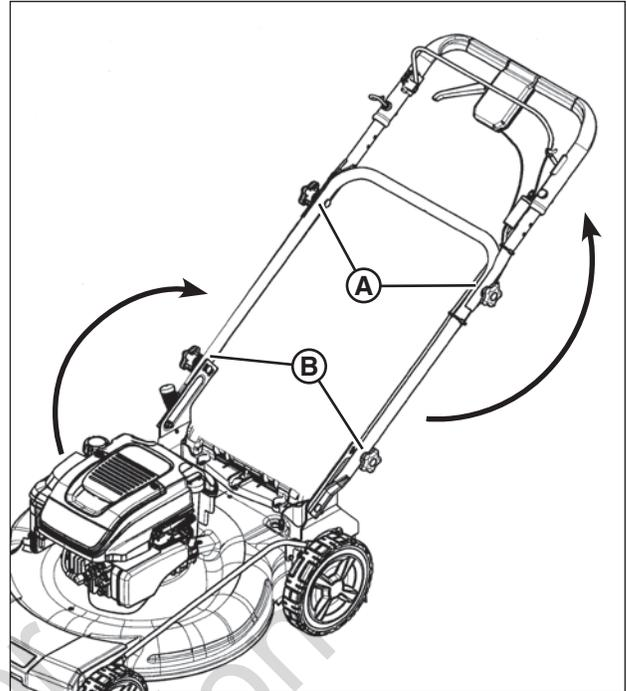

Figure 2: Raising the handle assembly
1. Loosen, but do not remove, the knobs (A, Figure 2) on both sides of the upper handle.
3. Remove the handle knobs, washers and carriage bolts from the lower handle (B, Figure 2).